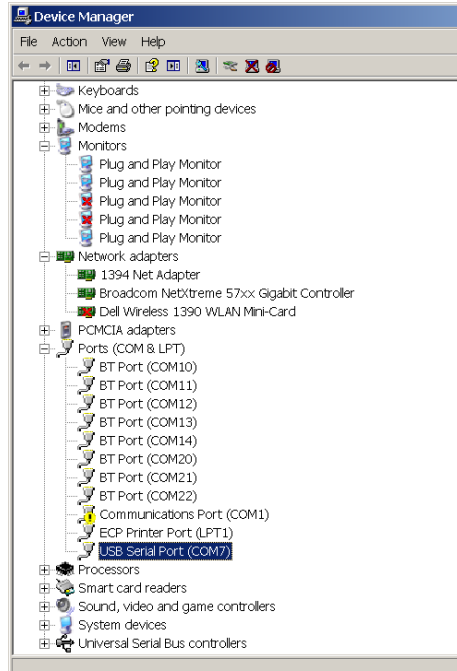

Figure 5 – Screen, Device Manager
- 4) Click on the **'Ports (COM & LPT)'** label or expand the tree by clicking the **'+'** sign. The COM ports in the system will be displayed as shown in Figure 5.
- 5) As shown in Figure 5, the COM port chosen by the system is displayed as **'USB Serial Port (COM7)'**. Only COM ports 1-16 should be used with the **FreeStar Pro Test Tool**. If a COM port greater than 16 has been selected by the system follow steps 6) through 8):
- 6) Double click on the **'USB Serial Port'** in the **'Device Manager'** window shown in Figure 5.